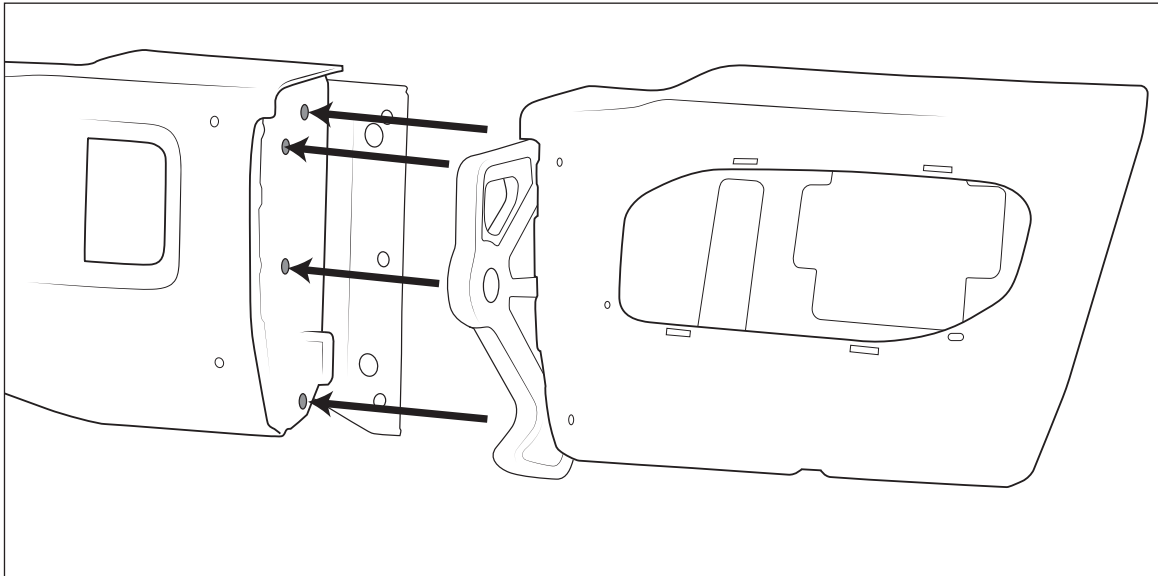

Figure 13
2. Lift the corner assembly onto the center section, inserting four bolts from the previous step into the corresponding holes in the center section (fig. 13). Secure using M12 nuts and hand tighten.